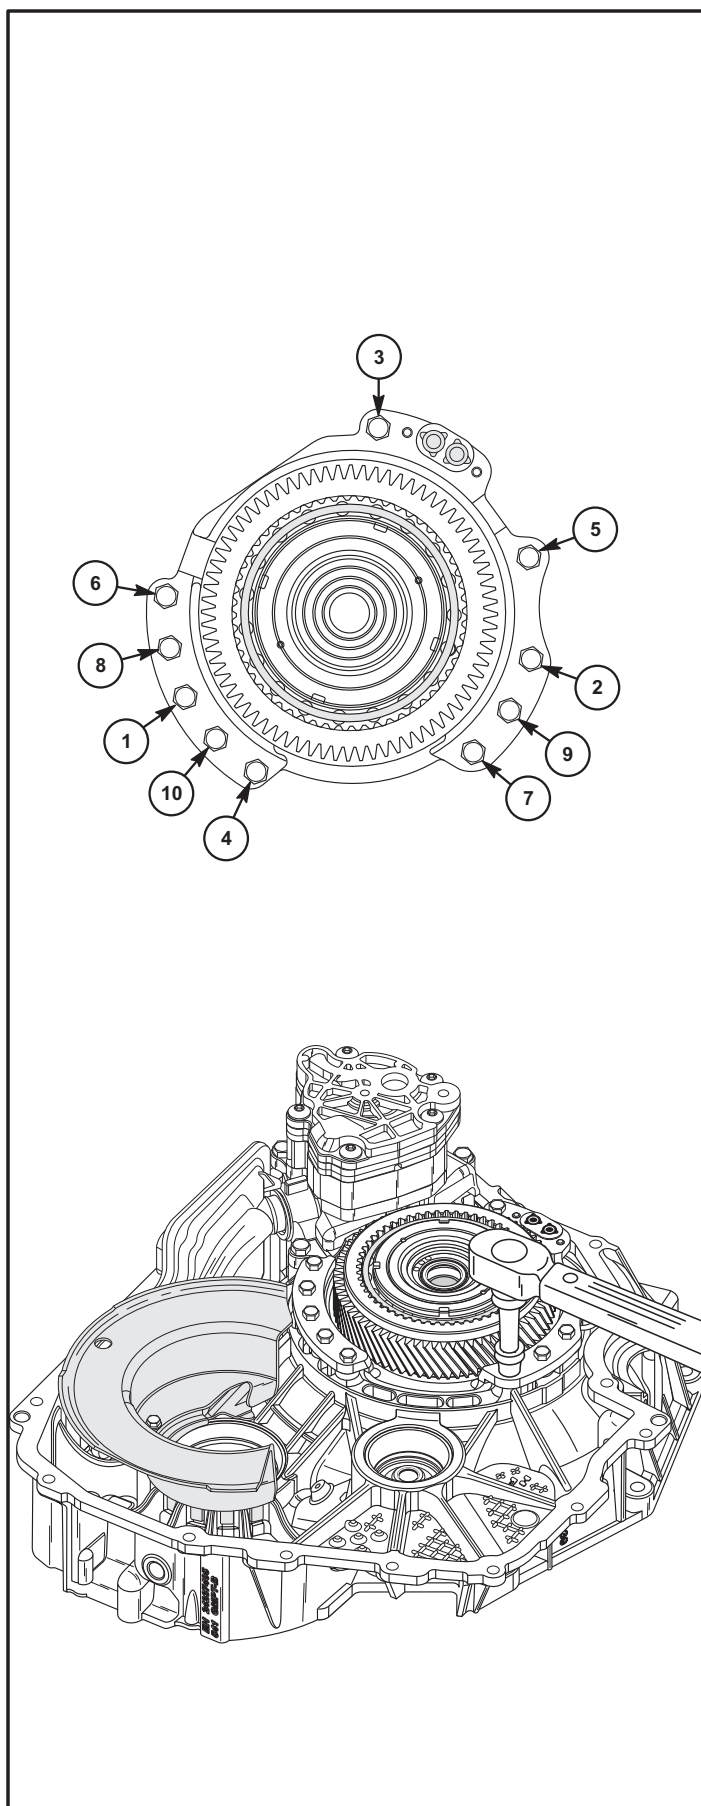

Figure 125
22. Torque the ten transfer drive gear support bolts to 41 N•m ( 30 ft. lb.), as shown in Figure 125, using the sequence shown in Figure 125.